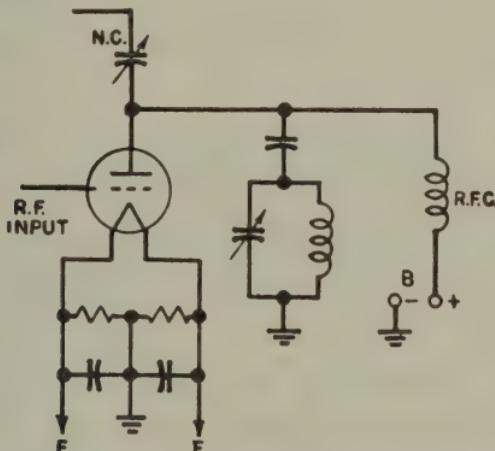

FIG. 4-20.—Simple shunt-fed plate arrangement.
*Ans.* Figure 4-20 illustrates a simple shunt-fed plate radio-frequency amplifier.